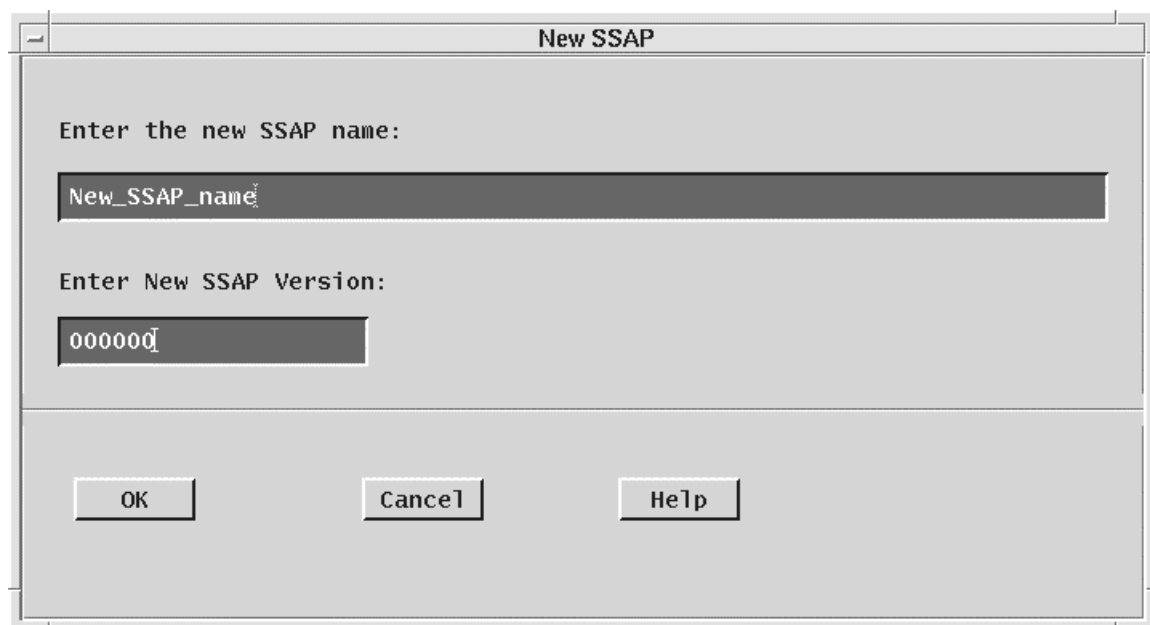

Figure 4.5.1-37. New SSAP Window
- A **Create** button that allows the operator to start the creation of a new SSAP. Upon clicking this button, the New SSAP screen appears where the operator is prompted to provide a new SSAP Name and SSAP Version, shown in Figure 4.5.1-37.